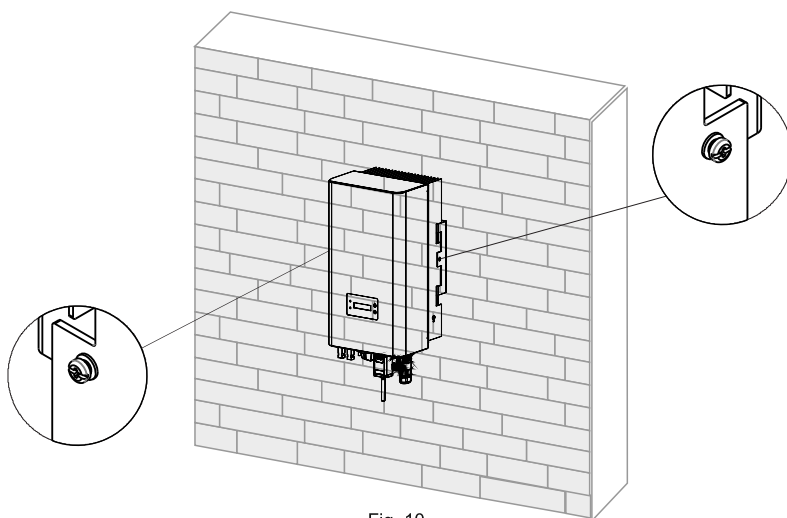

Fig. 10
Step 2: Mount inverter on mounting bracket with help of at least two people. Tighten the bolt and ensure inverter is properly fitted on bolt as per fig. 10.